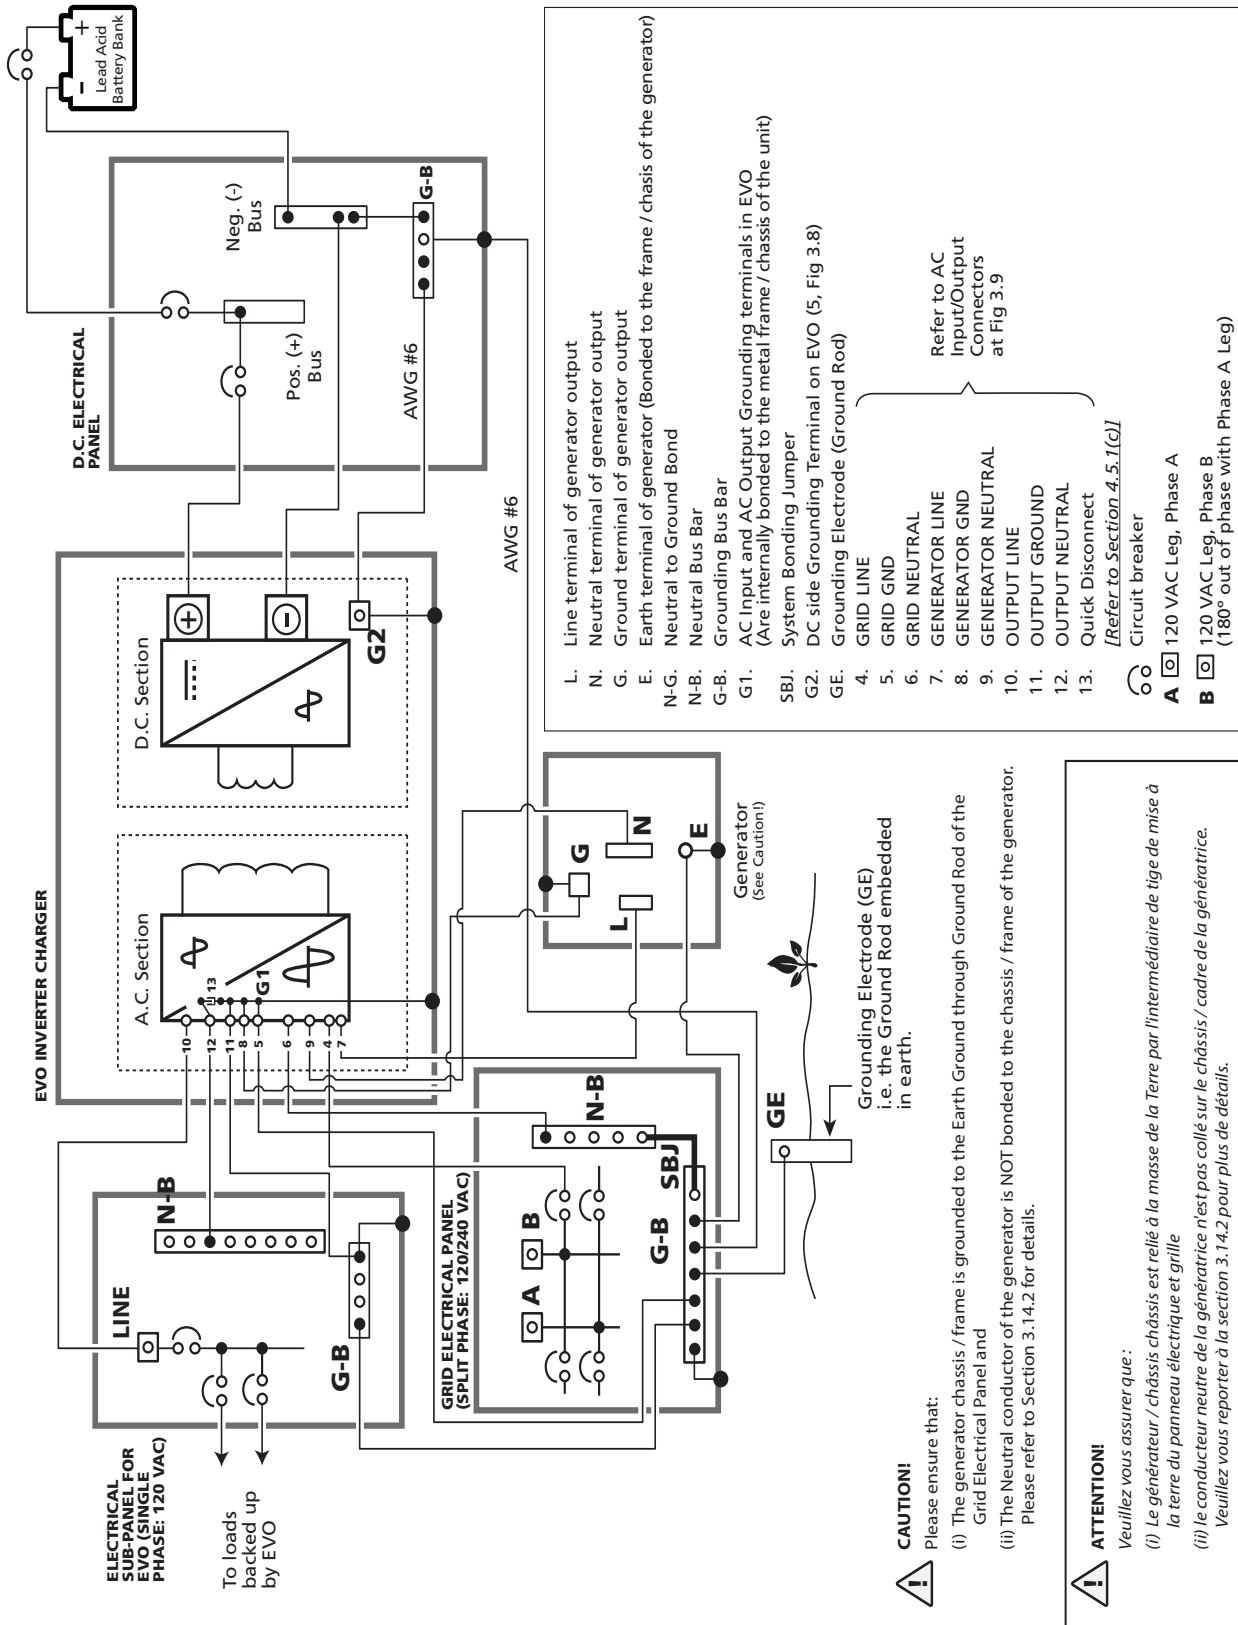

Fig 3.12 Grounding Arrangement for Shore Based Installation
Schematic at Fig. 3.12 illustrates the grounding arrangement of EVO Series.
3.13 DC SIDE GROUNDING (SEE FIG. 3.12)
As described at Section 3.14, the metal frame / chassis of the EVO™ (Fig 3.12, G1) is bonded to the Earth Ground "GE" (Ground Rod) for AC side grounding. It may be argued that if the metal frame / chassis of EVO is already bonded to Main Earth Ground "GE" for AC side grounding, why it is necessary to provide additional DC side grounding wiring? (Wiring that bonds DC Grounding Terminals "G2", "G-B" and GE in Fig 3.12). If separate thicker grounding wire of the same size as the battery cable was not provided for the DC side grounding and there was a ground fault in the battery circuit, very large DC fault current from Battery+ would flow through the smaller size AC grounding wires to the Battery Negative through Earth Ground. These smaller size AC side grounding wires would be damaged due to very high DC side fault current (150A to 400A depending on the Model of the EVO™ being used).
A DC Distribution Panel, as shown in Fig. 3.12, is normally provided to connect the batteries and distribute DC power to the inverter and to the other DC loads.
Please refer to Fig 3.12.
As explained at Section 3.14.1 above and shown in Figs 3.12 and 3.14, the Neutral Terminals of Grid Input, Generator Input and AC Output are internally bonded to the metal chassis of the EVO™ and the metal chassis of the EVO™ is connected to the Earth Ground through the Ground Rod of the Grid Electrical Panel. As the internal Transfer Relay does NOT transfer the Neutral of the Grid and Generator Inputs, the Neutral Terminal of
When connecting a generator to the EVO™ for shore based installation (See Figs 3.12 and 3.14), please ensure that (i) the generator chassis / frame is grounded to the Earth Ground through Ground Rod of the Grid Electrical Panel and (ii) the Neutral conductor of the generator is NOT bonded to the chassis / frame of the generator. If the bond between the Neutral conductor of the generator and it's chassis / frame is not removed, GFCI protected breaker supplying Grid power to the EVO™ will trip due to splitting of some return Neutral current through the path: Common Neutral → Neutral of Generator → Neutral to chassis / frame bond in the Generator → Neutral to Ground bond in Grid Electrical Panel → Neutral of Grid Electrical Panel (current returning through this path will not return through the GFCI protected Grid breaker and the GFCI will trip the breaker).
Lors de la connexion d'un générateur à l'EVO pour l'installation à partir du rivage (voir les figures 3.12 et 3.13), veuillez vous assurer que (i) le générateur / châssis est relié à la masse de la Terre par l'intermédiaire de tige de mise à la terre de la grille panneau électrique et (ii) le conducteur neutre de la génératrice n'est pas collé sur le châssis / cadre de la génératrice. Si la liaison entre le conducteur neutre de l'alternateur et c'est châssis / trame n'est pas enlevé, protégée GFCI breaker fournissant l'alimentation de la grille de l'EVO s voyage en raison d'un fractionnement de revenir par le chemin courant: Neutre commun → Générateur de Point Mort pour châssis / liaison châssis dans le générateur → point mort à la masse du panneau électrique grille → Point Mort du panneau électrique de la grille actuelle (retour par ce chemin ne sera pas de retour à travers la grille de protection GFCI disjoncteur et le disjoncteur se déclenche le disjoncteur).